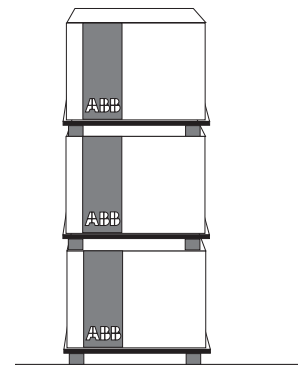

Fig. 5
- The maximum number of circuit-breakers that can be stacked on top of each other is shown in figure 5.